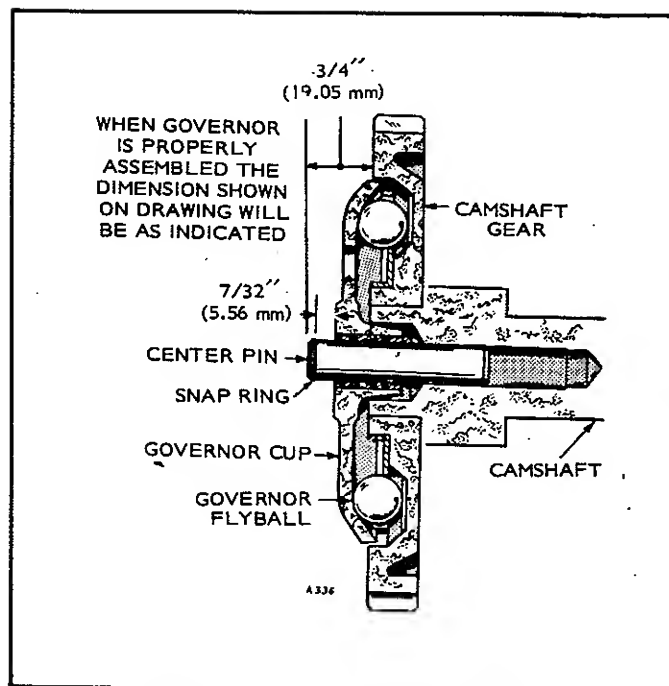

FIGURE 11-7. GOVERNOR CUP DETAILS
7. On CCK engines the center pin extends out 3/4 inch (19.05 mm) from the end of the camshaft (25/32-inch [19.84 mm] on J-series engines). See Figure 11-7. This provides an in and out travel distance of 7/32 inch (5.56 mm) for the governor cup. Hold the cup against the flyballs when measuring. If the distance is less (the engine may race, especially at no load) remove the center pin and press a new pin in only the required amount. Otherwise grind off the hub of the cup as required.